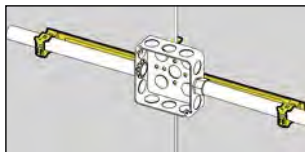

Figure 14 - BG-8-12-S18-W2
(2) Support Wires. The installation shall comply with the provisions of 300.11(A). The enclosure shall be secured, using methods identified for the purpose to ceiling support wire(s), including any additional support wire(s) installed for that purpose. Support wire(s) used for enclosure support shall be fastened at each end so as to be taut within the ceiling cavity. *(See Figure 14)*